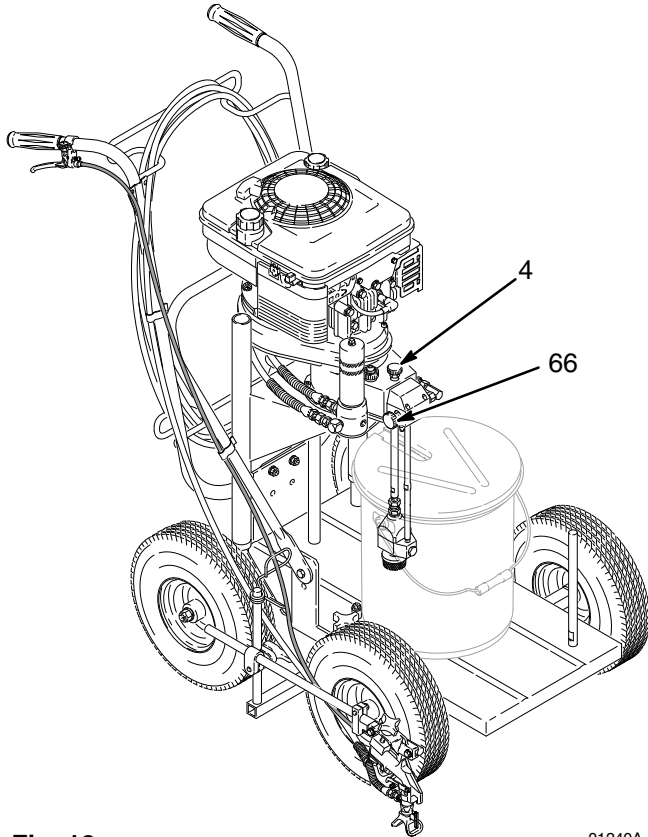

Fig. 13
10. Allow the engine to warm up and then adjust the speed as needed. Turn the pressure control (4) fully **clockwise** to increase pressure. See Fig. 13.
11. Turn the bypass valve (66) **clockwise**, finger tight, to close it; this allows the pump to build up pressure. See Fig. 13.